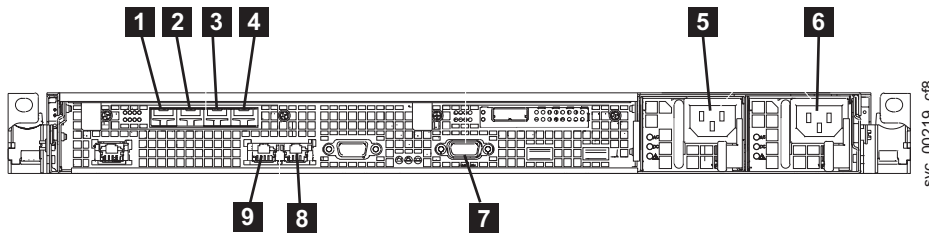

Figure 34. Connectors on the rear of the SAN Volume Controller 2145-CF8
1. Connect the Ethernet cables to Ethernet port 1, as shown by **8** in Figure 34 and Ethernet port 2 (**7**).